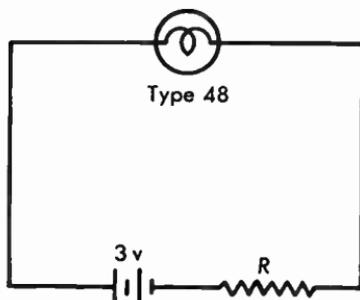

Fig. 2.12 Panel lamp and resistor in series to obtain the rated current and voltage.
2.12 The panel lamp type 48 requires 2 volts and 60 milliamperes. Determine the dropping resistor R in Figure 2.12 to operate the lamp from two dry cells in series.